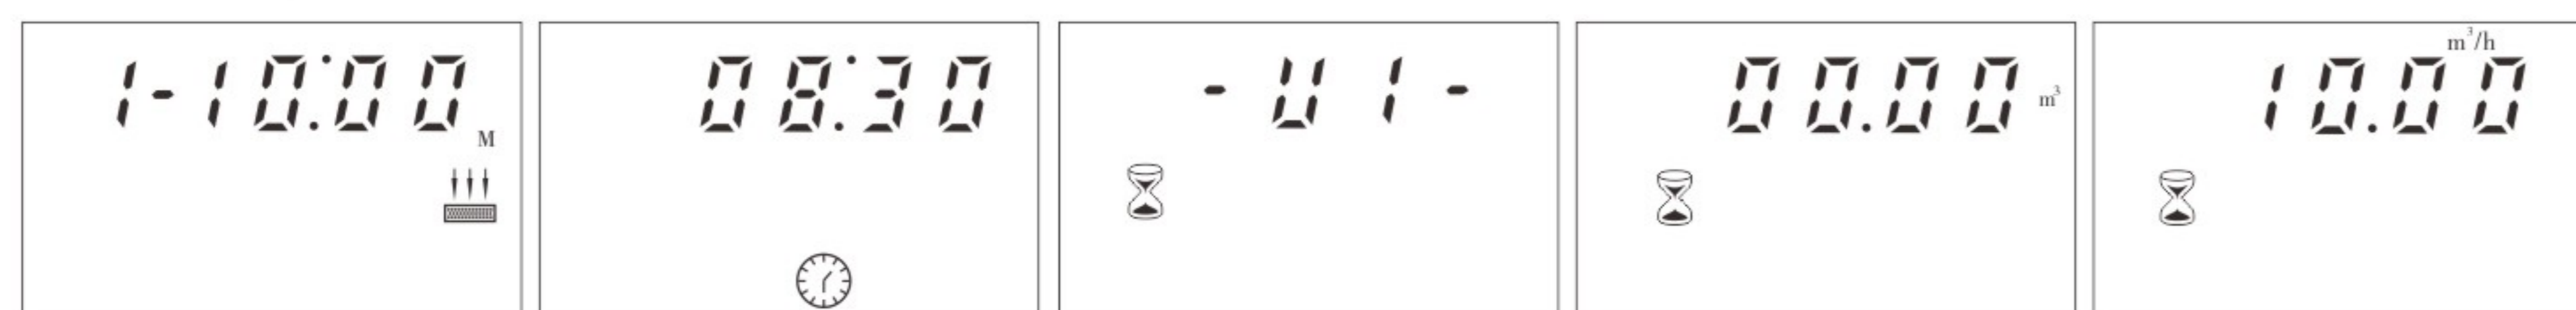

Figure 2A Figure 2B Figure 2C Figure 2D Figure 2E
- When tank U1 in Service while tank U2 in Fast Rinse: Figure 2A/2B/2C/2D/2E display every 5 seconds in cycle.